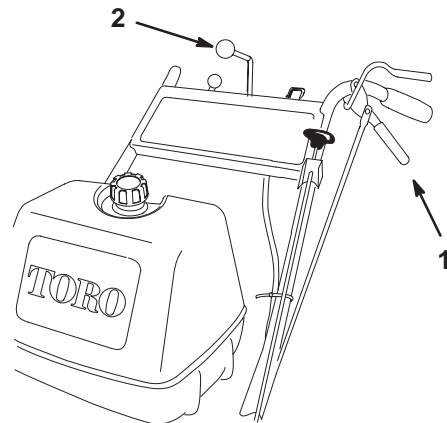

Figure 24
3. Slowly release the drive levers to move forward (Fig. 24).
To go straight, release drive levers equally (Fig. 24).
To turn, squeeze the drive lever on the side and direction you want to turn (Fig. 24).
3. Slowly squeeze the drive levers back together to move rearward (Fig. 24).